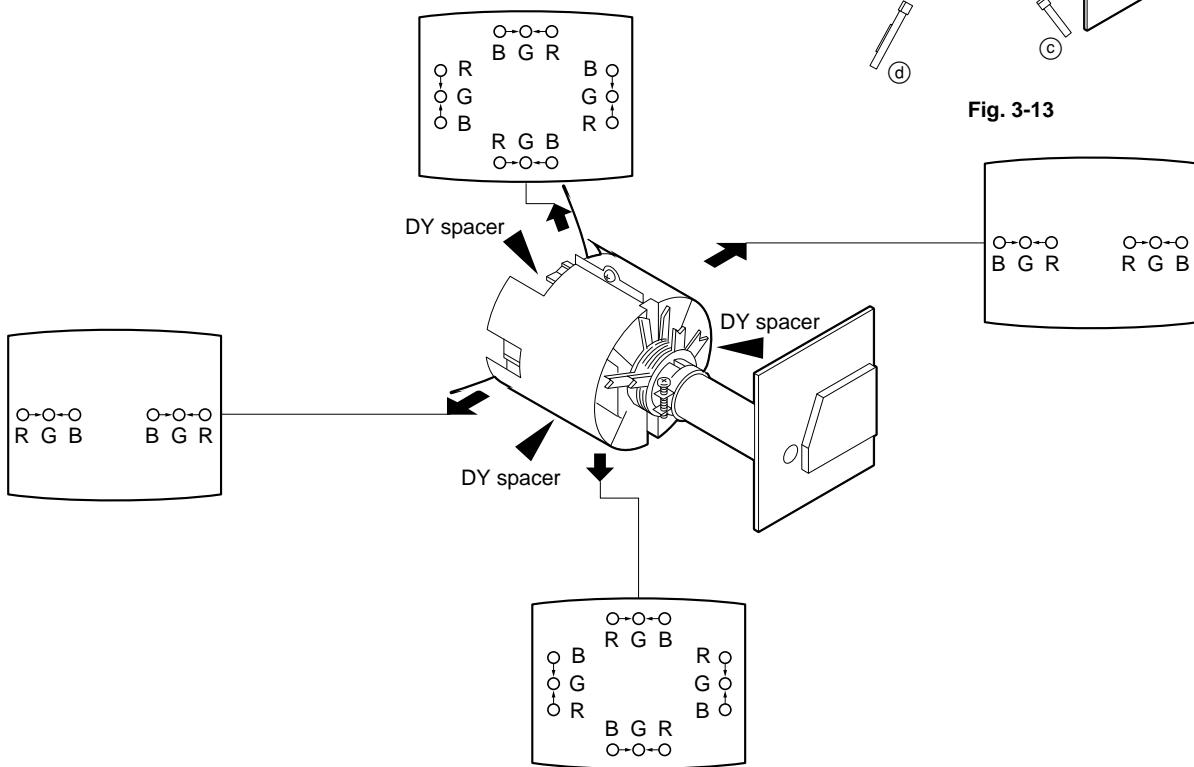

Fig. 3-12
- Insert the three DY spacers between the deflection yoke and picture tube's funnel as shown in Fig. 3-12.